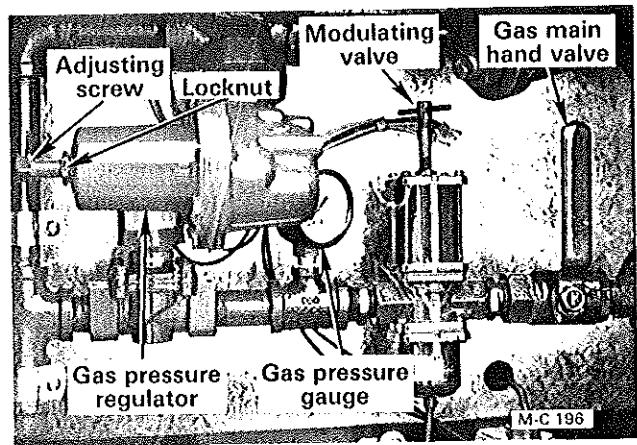

Figure 32
- B. Close the gas main hand valve (handle 90° to the piping), see Figure 32.